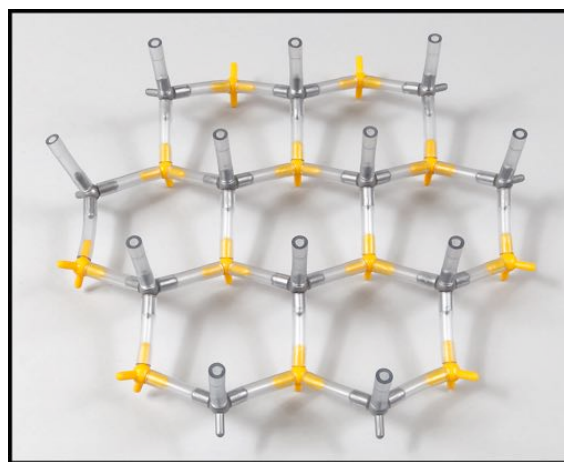

Fig. 4
4. Attach tubes to the 12 pegs of the silver ions pointing up on the layer just completed. See Fig. 4.